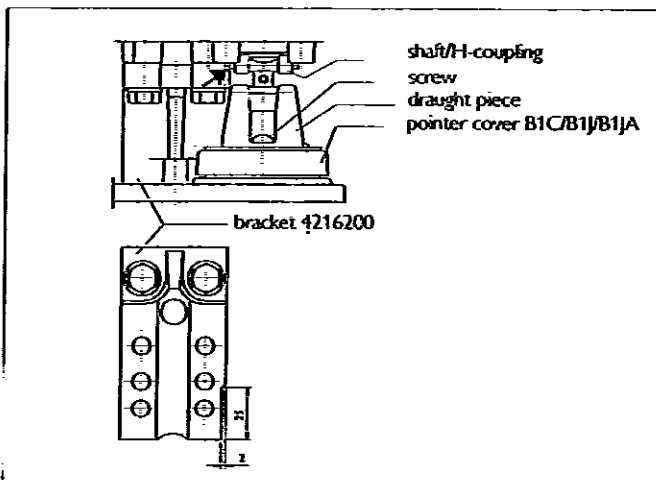
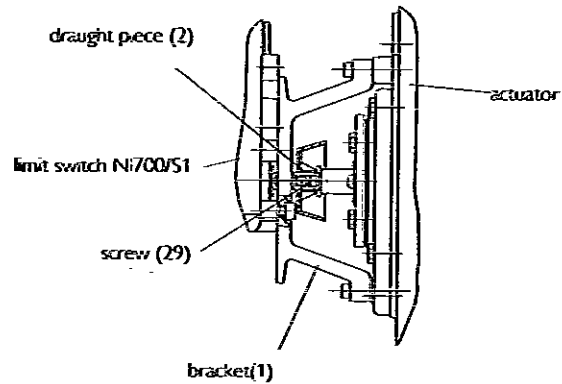
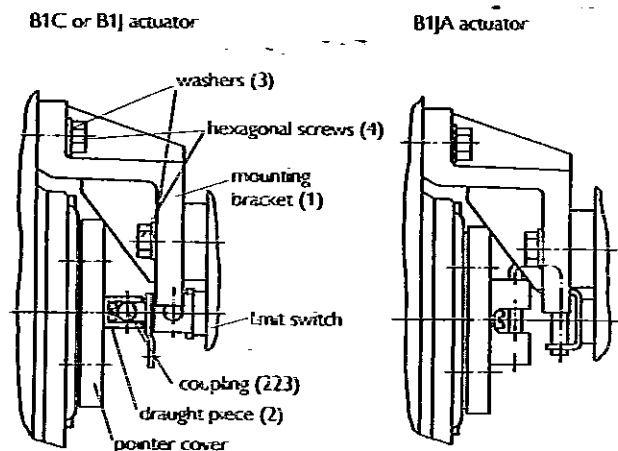
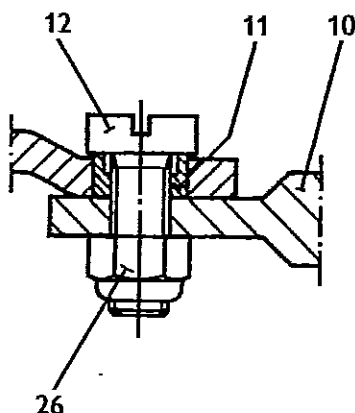

Fig. 3. Installing NI700/S1 limit switch on B series actuator (older version).
Fig. 4. installing S1
Fig. 5. Installing on a Metso Automation actuator
Fig. 6. Installing the rod (10)
If limit switch NI700/S1 is mounted on an existing actuator B_6-20 with bracket 4216200, make sure that the shaft and draught piece can rotate freely. Remove material from the bracket according to Fig. 3, if needed.
2. Install the pointer (only B_U) parallel with the valve closure member and fasten the draught piece (2) with a screw (29) to the pointer cover (B_U) or to the coupling (QP), as shown in Fig. 4. Secure the draught piece fastening screw with a sealant (e.g. Loctite) and tighten it properly.
3. Fasten the mounting bracket (1) to the limit switch.
4. Fasten the mounting bracket (1) to the actuator. The mechanical coupling (223) of the limit switch must be positioned in the draught piece (2) as shown in Fig. 4.
2. Install the pointer parallel with the valve closure member and fasten the spline driver (2) to the pointer cover with the coupling strap positioned as shown in Fig. 5. Secure the spline driver fastening screw with a sealant (e.g. Loctite) and tighten it properly.
3. Fasten the mounting bracket (1) to the limit switch. Note the washers (3)!
4. Fasten the mounting bracket (1) on the actuator. The mechanical coupling (223) of the limit switch must be positioned in the spline driver (2) as shown in Fig. 5.
3. Fasten the bracket (5) to positioner NP700/NE700 with screw (7) and washer (6), see Section 9.5.
4. Fasten limit switch NI700 to the bracket (5), see Section 9.2.
5. Fasten the rod (10) with screws and bushings (12+11). Turn the bushing (11) onto the screw (12) so that the spacing inside the bushing is placed against the head of the screw, see Fig. 6. Apply the outer sphere of the bushing with Molykote BR2 vaseline (or the equivalent).
6. Tighten the lock nuts (26).
7. Fasten the assembly to the actuator. The mechanical coupling of the positioner must be placed into the spline driver (2) as shown in Fig. 5.
2. Install the pointer parallel with the valve closure member and fasten the spline driver (2) to the pointer cover with the coupling strap positioned as shown in Fig. 5. Secure the spline driver mounting screw with a sealant (e.g. Loctite) and tighten it properly.
3. Fasten positioner NP700/NE700 and limit switch NI700 to the mounting bracket (1), see Section 9.6.
4. Fasten the rod (10) with screws and bushings (12+11). Turn the bushing (11) onto the screw (12) so that the spacing inside the bushing is placed against the head of the screw, see Fig. 4. Apply the outer sphere of the bushing with Molykote BR2 vaseline (or the equivalent).
5. Tighten the lock nuts (26).
6. Fasten the assembly to the actuator. The mechanical coupling of the positioner must be placed into the spline driver (2) as shown in Fig. 3.